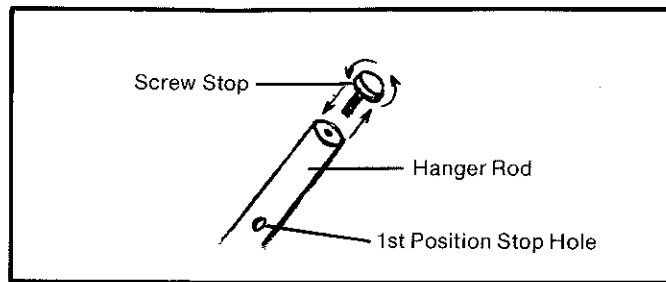
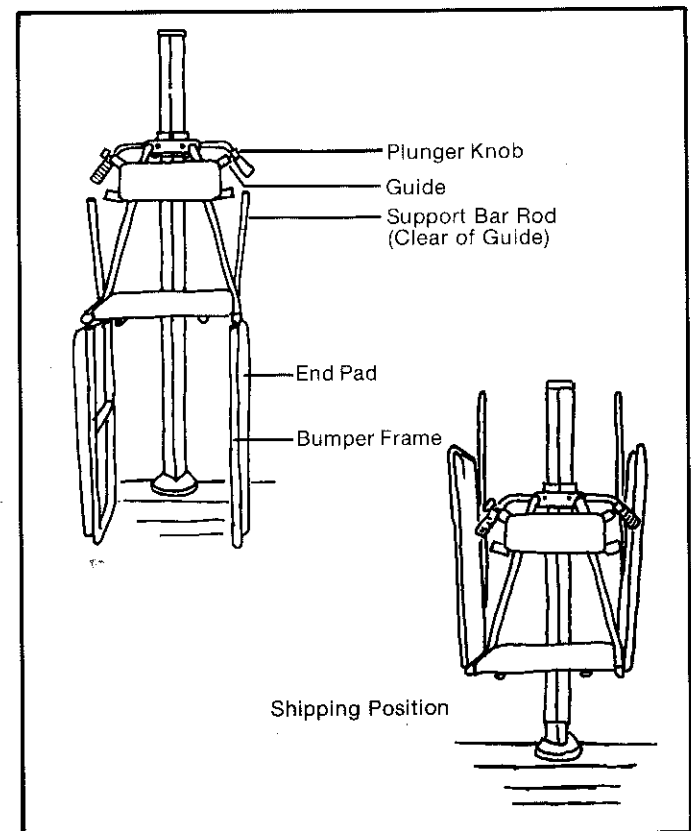

Figure 2-2
Figure 2-8
1. Remove lift from carton. (See Figure 2-8)
4. The two (2) end pads and bumper frames are shipped in a vertical position. While holding bumper frame, remove strapping. While still holding frame, lower bumper frame carefully to its natural hanging position. Repeat process for both end pads. Once both end frames are free, proceed with step 5.
5. Remove screw stops from ends of stronger rods and set them aside. Figure 2-2.
Replace screw stops into ends of hanger rods, Figure 2-2.
Let frame and end pads come to rest in natural hanging position. Repeat for opposite support bar rod. Both support bar rods are now free from rod guides, Figure 2-8.